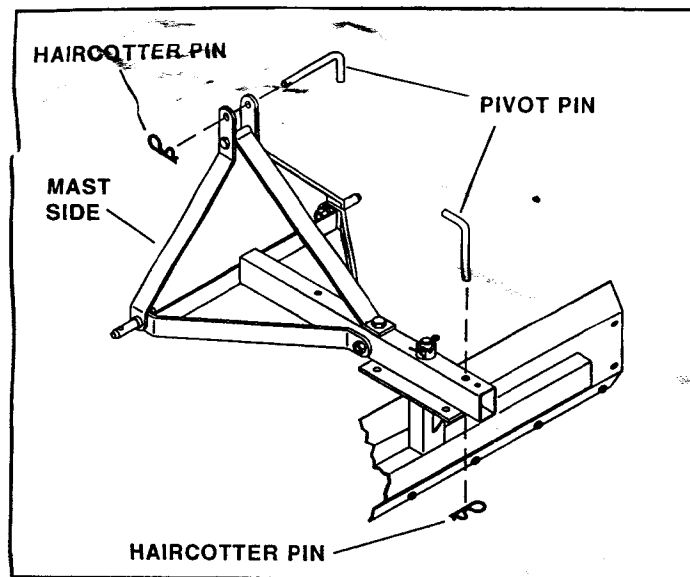

FIGURE 8
- Lock the blade assembly to the mast assembly by installing a pivot pin at the rear of the mast assembly. Secure the pin using a haircutter pin through the hole in the end of the pivot pin. See figure 8.
- Install a pivot pin through the hole at the upper end of the mast sides to provide a connection point for the tow vehicle's winch system. Secure the pin with a haircutter pin through the hole in the end of the pivot pin. See figure 8.